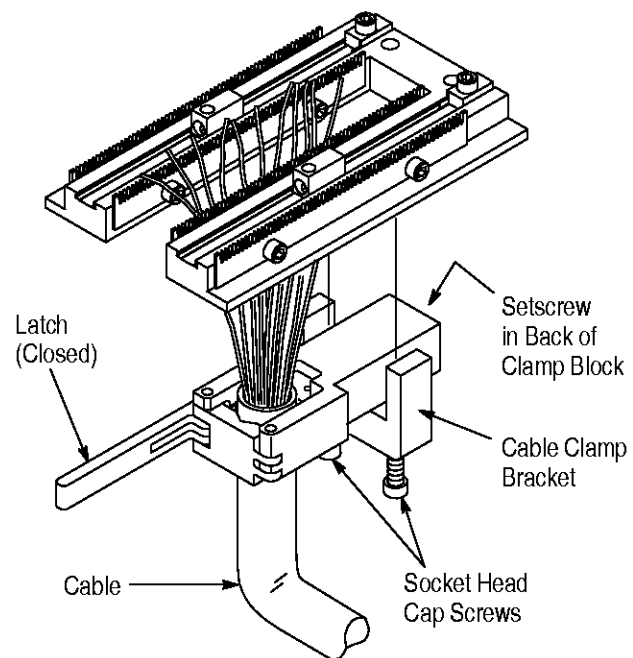

Figure 7
5. Open the cable clamp by opening the latch. Refer to Figure 7.
If the clamp is too tight or too loose, adjust the clamp by moving the jaw using the setscrew located in the back of the clamp block. Refer to Figure 7.
8. Position the cable clamp so that the cable bundle is centrally located on the termination cover. To position the clamp, loosen, but do not remove, the socket head cap screws in the cable clamp bracket and slide the clamp to the desired position. Refer to Figure 7.
- Modified Figure 7